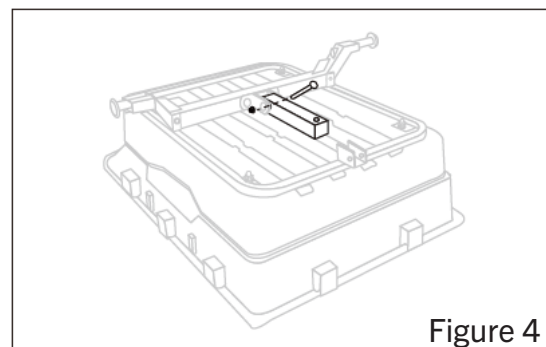

Figure 4
6. Inside the hitch pin tilt bracket, place the end of the trailer tongue hinge and pivot bar and align the holes. Place a 3 1/2" carriage bolt through the aligned holes and secure with a flat washer, lock washer, and hex nut. **FIGURE 4**